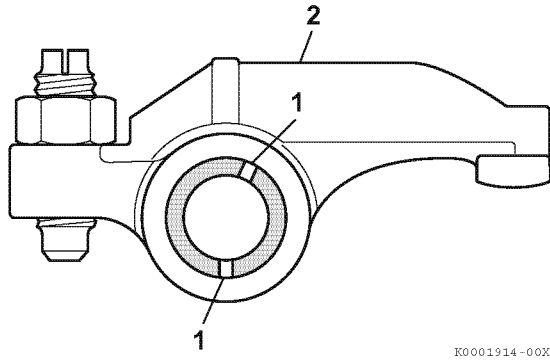

Figure 6-31
- Ensure the lubrication holes in the rocker arm shaft (**Figure 6-31, (1)**) are oriented correctly with respect to the rocker arms (**Figure 6-31, (2)**).